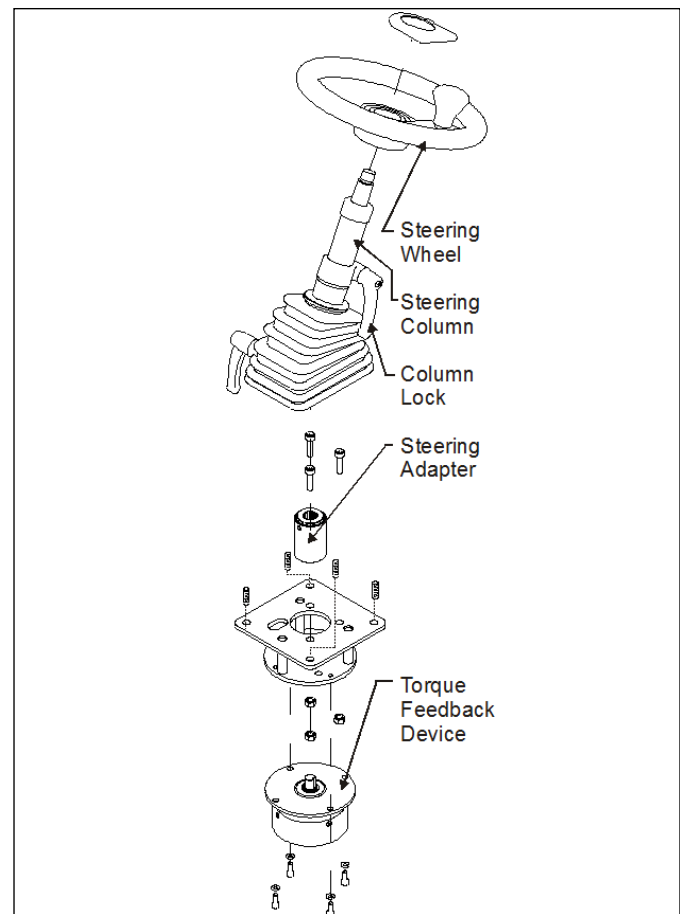

Figure 4-4 Steering Column Removal
4. Remove the four bolts and hardware, securing the steering column console to the bellows retainer plate. **See Figure 4-4.**